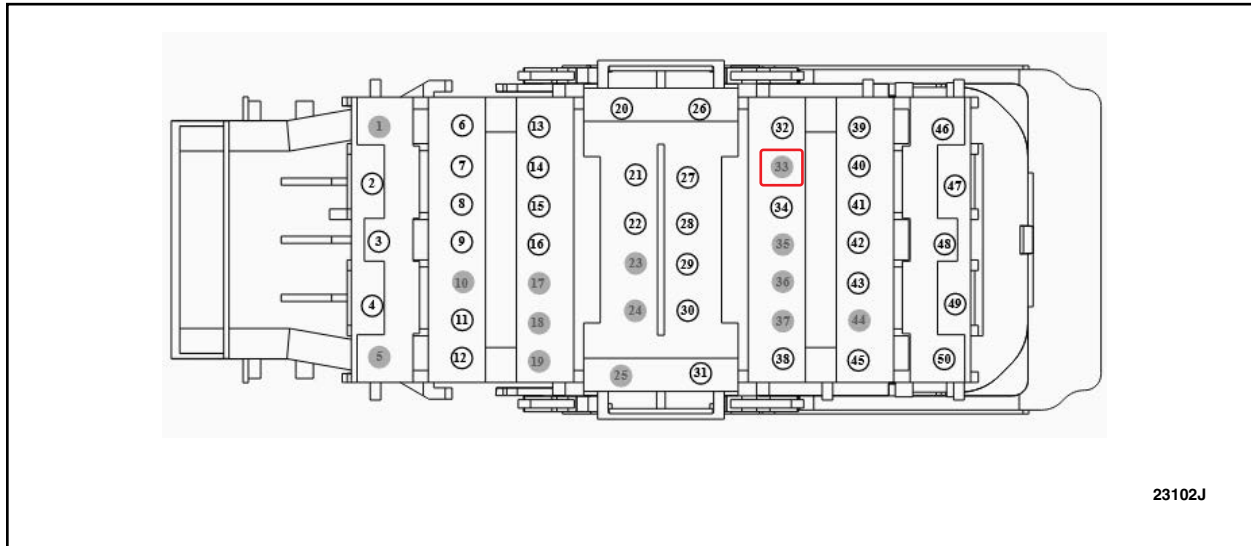

FIGURE 8
10. Identify Cavity 33 in the connector. This should be an empty cavity. See Figure 8.